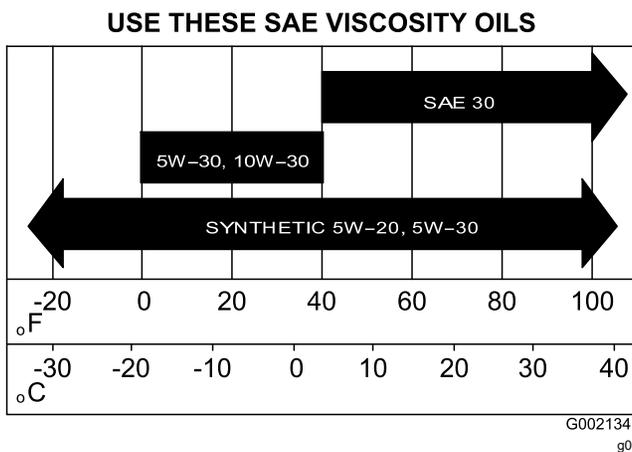

Figure 38
5. Fill the crankcase with the specified oil (Figure 38).